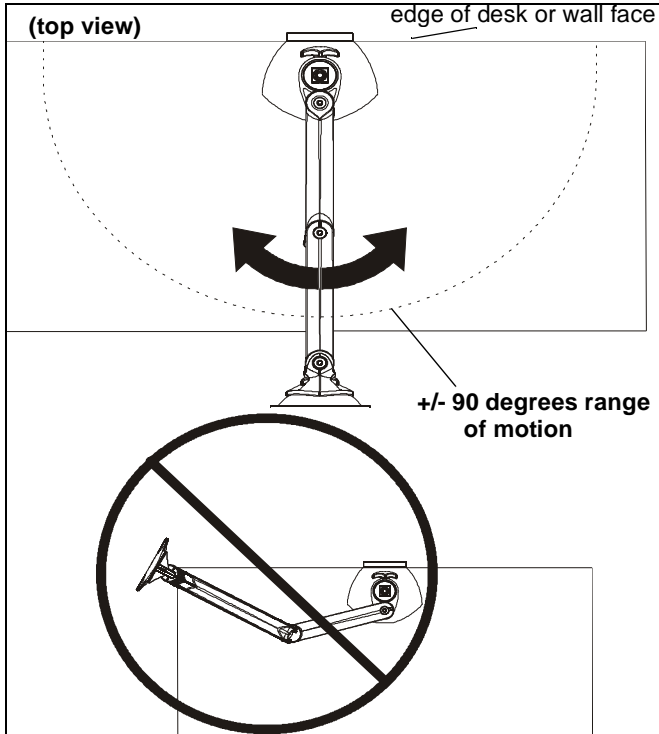

Figure 10
1. Adjust arm angle as desired up to 90 degrees in either direction. (See Figure 10)